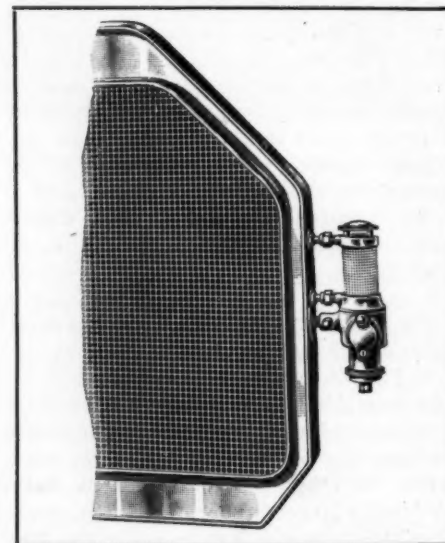

Fig. 2—Permanent type of Neverout radiator heater
5. The compressor described in this patent (Fig. 2) is a combination of a power cylinder provided at one end with a connecting member adapted to deliver a fluid
The original type of the Neverout heater is shown in Fig. 2, where it is permanently attached to the radiator. The burner of this type burns acetylene gas and is connected to the tank by means of a rubber tube. This type of heater is a double-walled cylinder of about 4 inches in length with cross-staggered copper tubes connecting the walls, around and between which the acetylene gas passes. The flame is produced on a burner resembling the Bunsen type, and the oxy-acetylene flame has a temperature